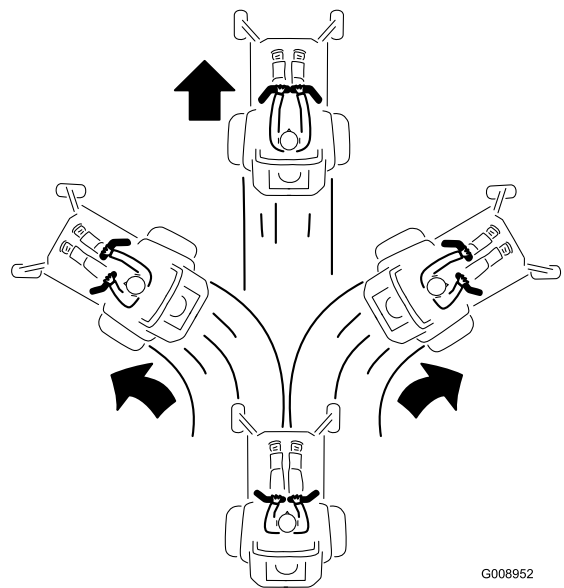

Figure 26
2. To go forward, slowly push the motion-control levers forward (Figure 26).